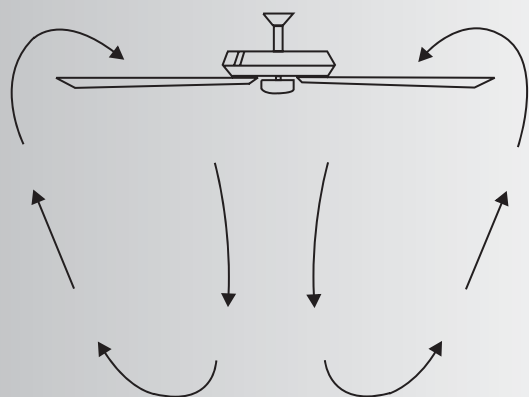

Fig. 25
**Warm weather-(Forward)** A downward airflow creates a cooling effect as shown in Fig. 25. This allows you to set your air conditioner on a warmer setting without affecting your comfort.